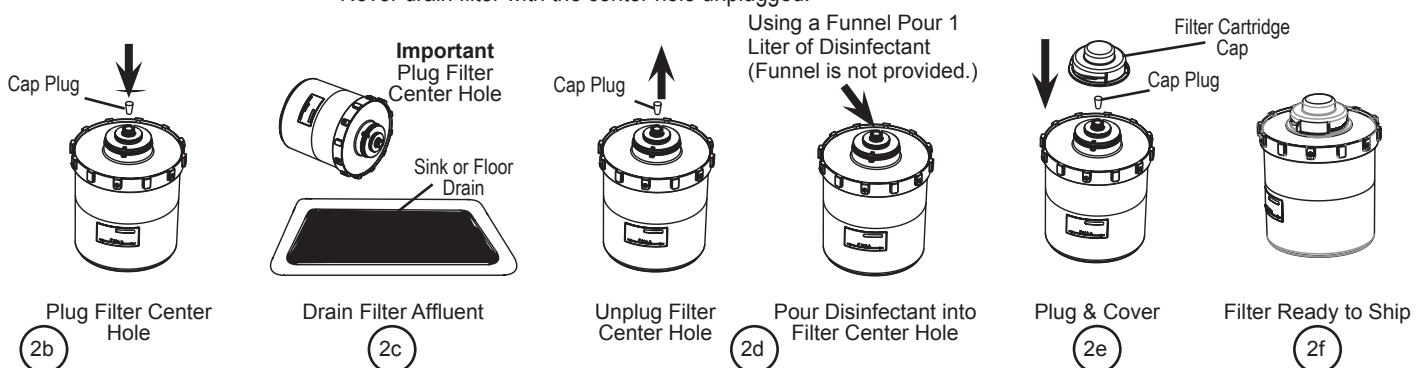

Figure 4. Disinfecting Removed Filter
2. **Disinfect Removed Filter.** Refer to Figure 4 and disinfect the Solid Collection Filter when the filter is removed from the **Acadia** separator unit by performing the following steps.